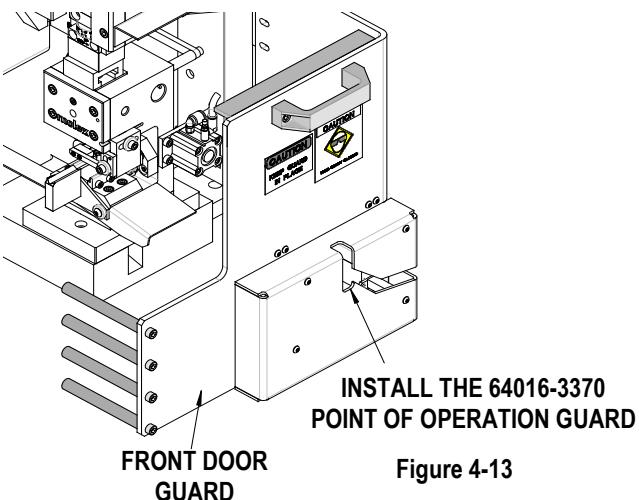
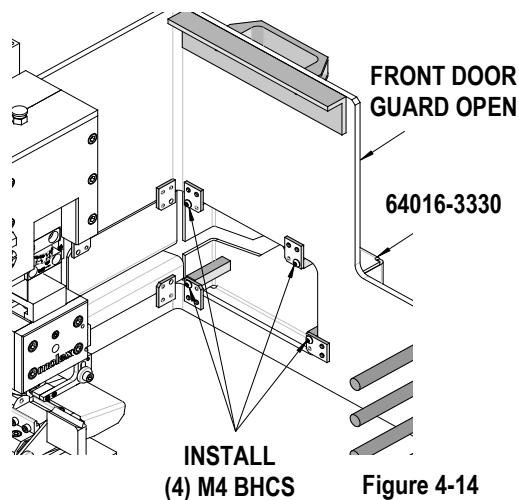

Figure 4-13
Figure 4-14
3. Place the Point of Operation (Order Number 64016-3370) 6 AWG to 2 AWG Guard Assembly on the outside of the Front Door Guard. See Figure 4-13.
4. From inside of the Front Door Guard, locate the clearance holes of the (4) mounting brackets (64016-2523).
5. Install the Point of Operation (Order Number 64016-3370) 6 AWG to 2 AWG Guard Assembly using (4) M4 BHCS through the mounting brackets and into the (4) square posts. See Figure 4-14.